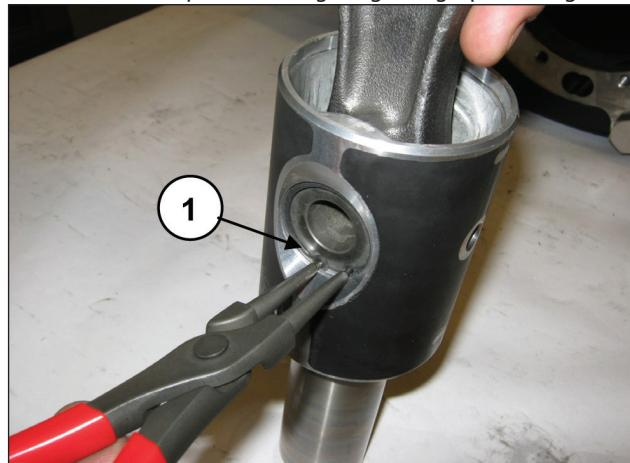
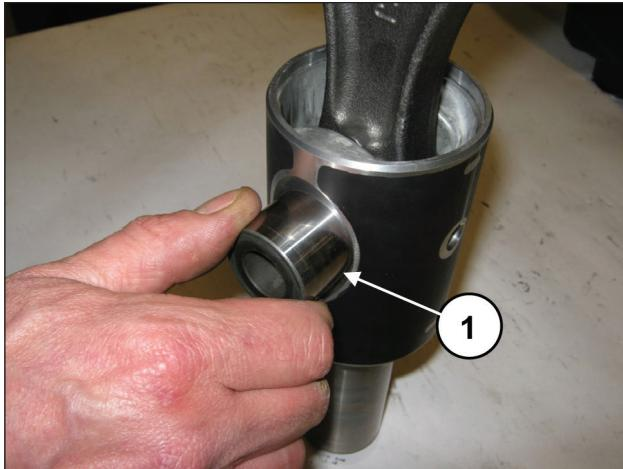
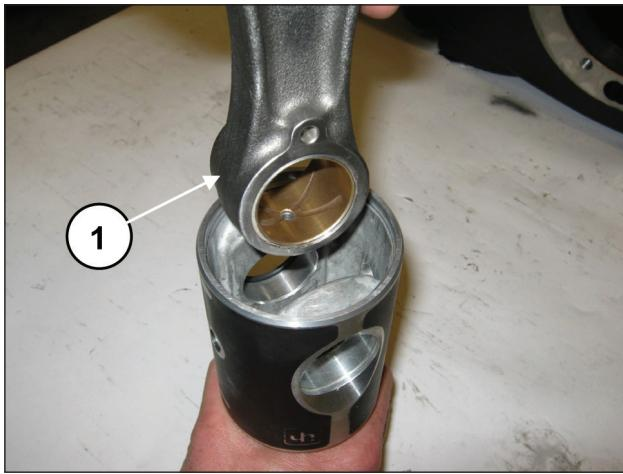

Fig. 39
Fig. 40
Fig. 41
Remove the two spindle locking Seeger rings (pos. ①, Fig. 39).
Remove the spindle (pos. ①, Fig. 40) and extract the conrod (pos. ①, Fig. 41).
Insert the conrod in the piston guide (pos. ①, Fig. 41) and then insert the spindle (pos. ①, Fig. 40). Apply the two shoulder Seeger rings (pos. ①, Fig. 39).